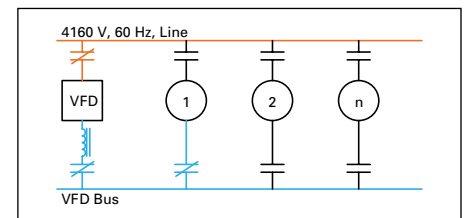

Figure 10.5-15. VFD Running Motor #1
- PLC opens bypass contactor (Figure 10.5-15)